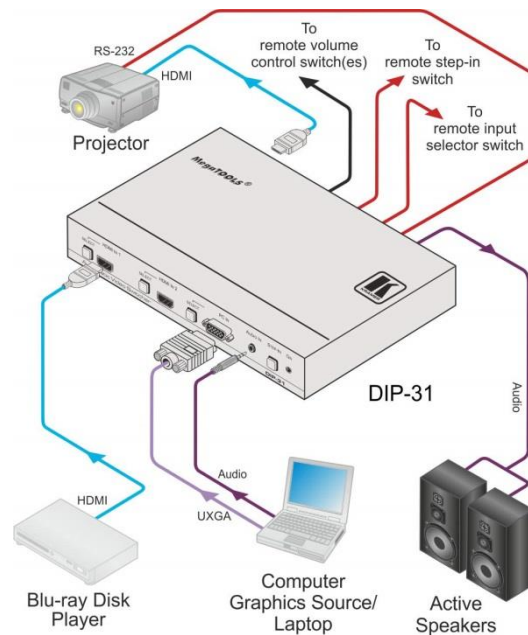

Figure 3: Connecting the DIP-31
## To connect the DIP-31 as illustrated in Figure 3:
10. Connect the power adapter to the **DIP-31** and to the mains power, (not shown in Figure 3).